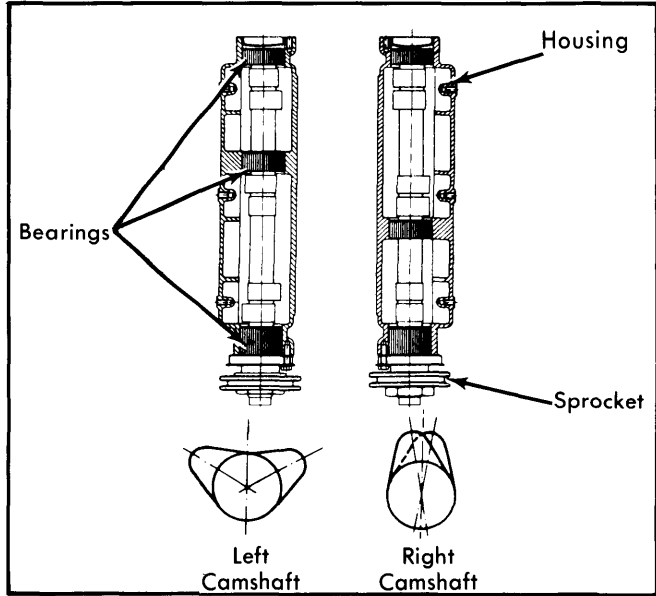

Fig. 5 Camshaft and Housing Viewed from Blower End of Engine (911 Shown)
NOTE — Camshaft housings are interchangeable, but camshafts are not. Camshafts must be positioned on their proper side. See Fig. 5.
3) Press valve guide into head from camshaft side until a measurement of $.5196''$ (13.2 mm) is reached. (See Fig. 5). Use suitable grease as a lubricant when pressing in valve guides. Bore or ream valve guide I.D. to $.3543-.3549''$ (8.99-9.01 mm).